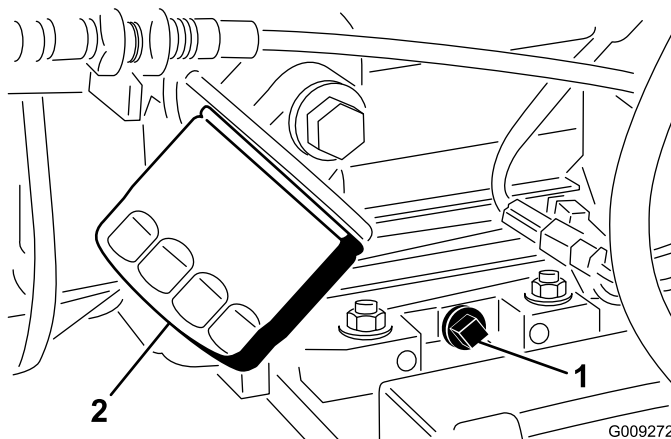

Figure 36
2. Remove drain plug and let oil flow into drain pan (Figure 36). When oil stops, install drain plug.
3. Remove oil filter (Figure 36). Apply a light coat of clean oil to the new filter seal before screwing it on. Screw filter on until gasket contacts mounting plate, then tighten 1/2 to 2/3 of a turn. **DO NOT OVER-TIGHTEN.**